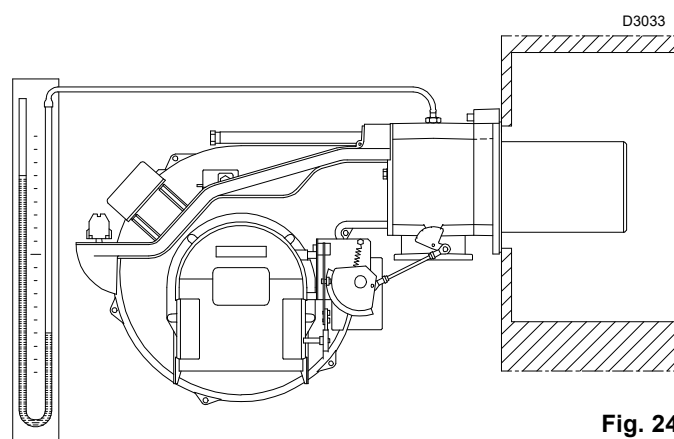

Fig. 24
- Fit a U-type pressure gauge (Fig. 24) to the gas pressure test point on the pipe coupling.
The arrival of gas at the sleeve is indicated by the U-type manometer (Fig. 24 on page 24).
A rough indication can be obtained from the tables on page 5, just read the gas pressure on the U-shaped pressure gauge, see Fig. 24 on page 24), and follow the instructions on page 20.